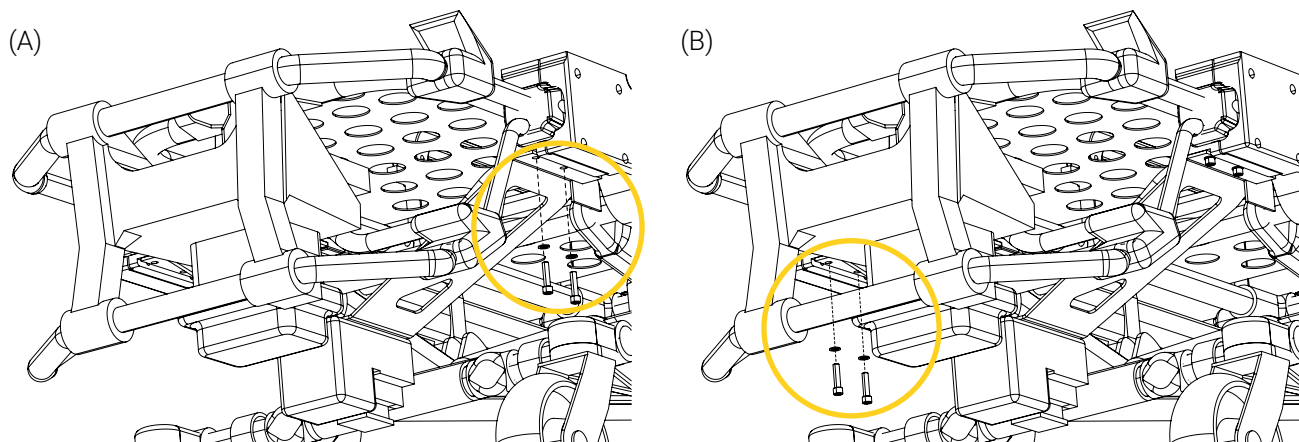

Figure 31: Reinstalling the Power-LOAD system
9. Reinstall and partially tighten the Power-LOAD system reusing the four (4) screws and the four (4) washers (Figure 31). Refer to the stretcher user documentation for the safety guidelines, safe use and recommendations if needed.